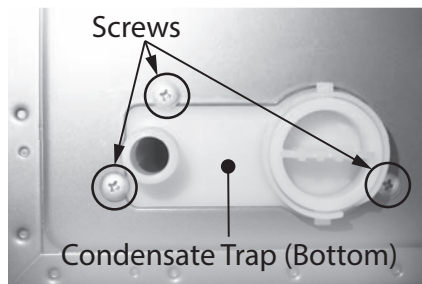

Figure 240 - Location of condensate trap screws.
- 21 Locate the three (3) screws at the back left corner of the cabinet that secure the condensate trap. See Figure 240. Use a Phillips screwdriver to remove the screws. Place screws aside in a safe place for reinstallation.